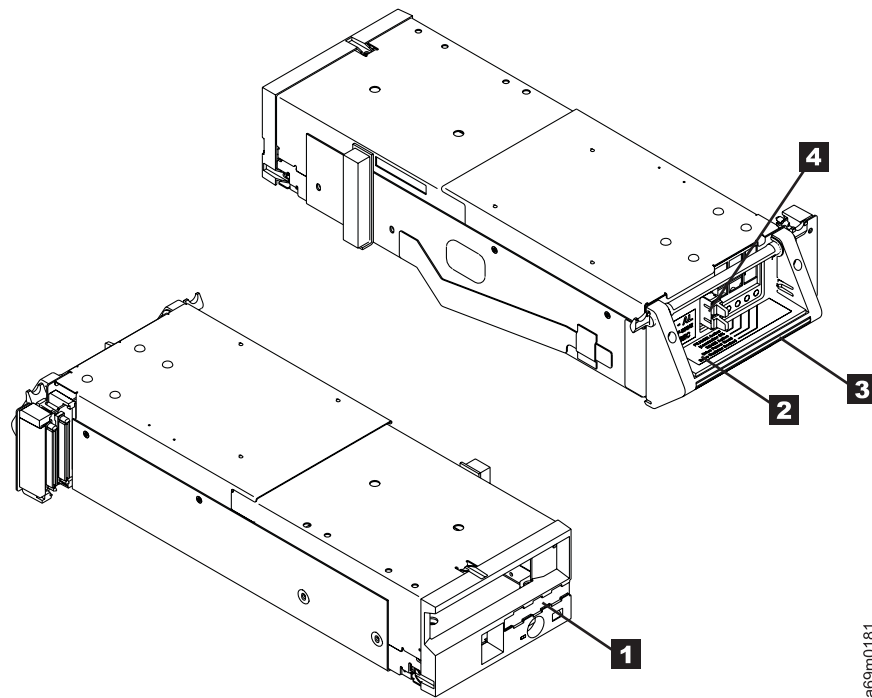

Figure 68. Removing and Replacing a Drive Canister Assembly - LTO Fibre Channel Hot Swap
5. Refer to Figure 68. Unplug the fibre cable.
- If a logical library label (see **4** in Figure 68 on page 325) is attached to the old drive, remove it from the old drive and attach it to the new drive.